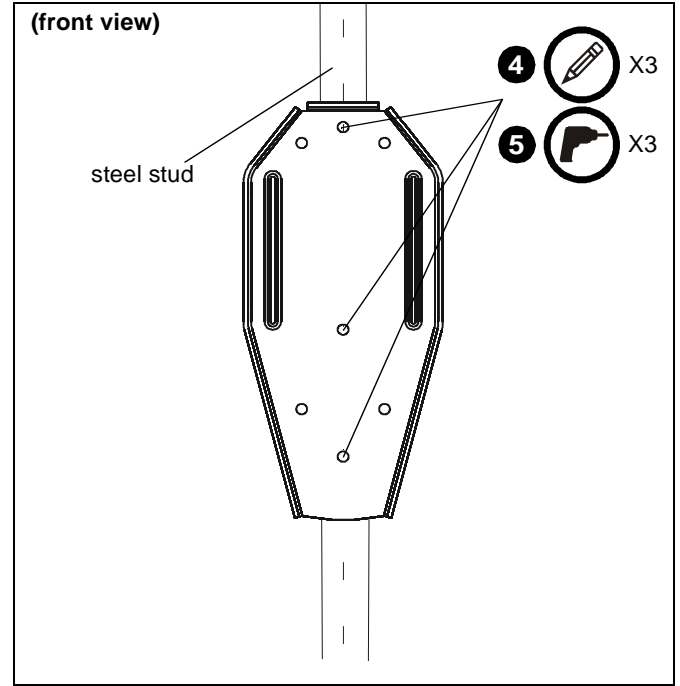

Figure 5
- Line up inner three holes on mounting bracket with center of stud at desired mounting location. (See Figure 5)
- Using mounting bracket as a template, mark three holes at the inner three holes in bracket. (See Figure 5)
- Drill three 1/2" holes at marked locations in wall. (See Figure 5)